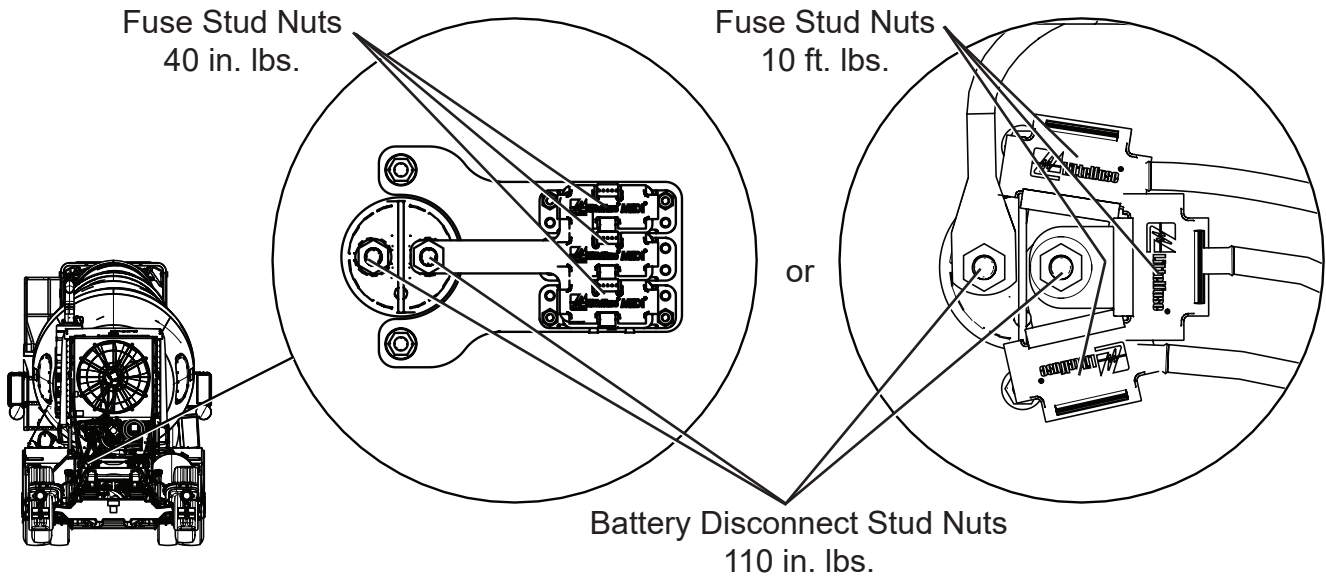

Figure 6
8. Check the battery disconnect stud nuts and fuse stud nuts torque, see Figure 6.